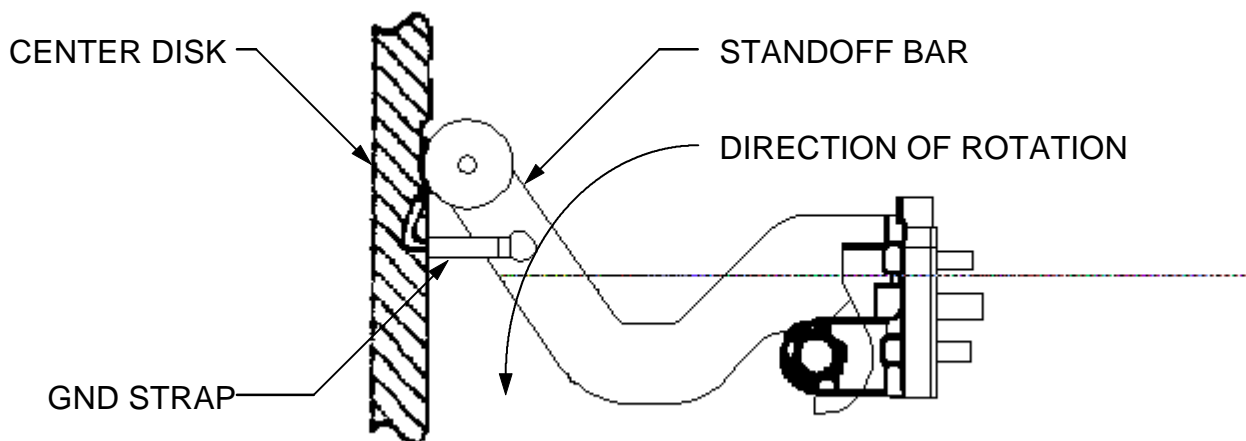

Figure 4. Side view of Standoff Bar
4. Remove Ground Strap (Ratchet 3/8", TBD Socket). See Figure 4.
5. Rotate standoff bar towards hatch center, remove from structure (Tm pry stow). See Figure 4.
14. Rotate standoff bar approximately 45 degrees away from controller using both hands to assure both hooks rotate evenly into place. See Figure 4.
18. Replace Ground Strap on Standoff Bar (Ratchet 3/8", TBD Socket). See Figure 4.